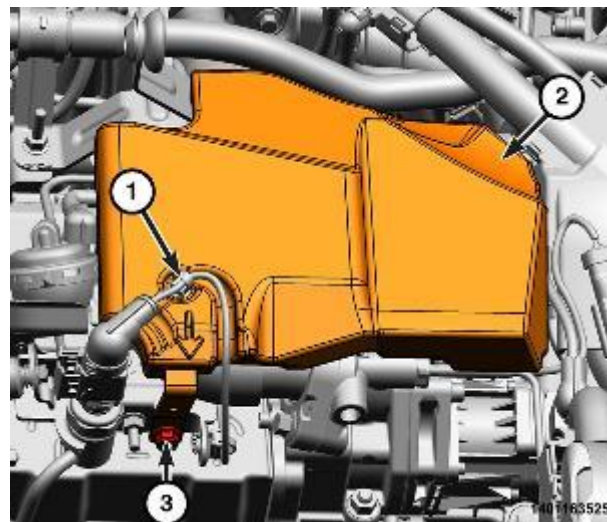

Figure 189 – Right Fuel Rail Cover
30. Loosen the right fuel rail cover nut (3), detach the wire harness retainer (1), and remove the fuel rail cover (2) (Figure 189).
56. Install the fuel rail cover (2), attach the wire harness retainer (1), and tighten the right fuel rail cover nut (3) to 5 N·m (44 In. Lbs.) (Figure 189).